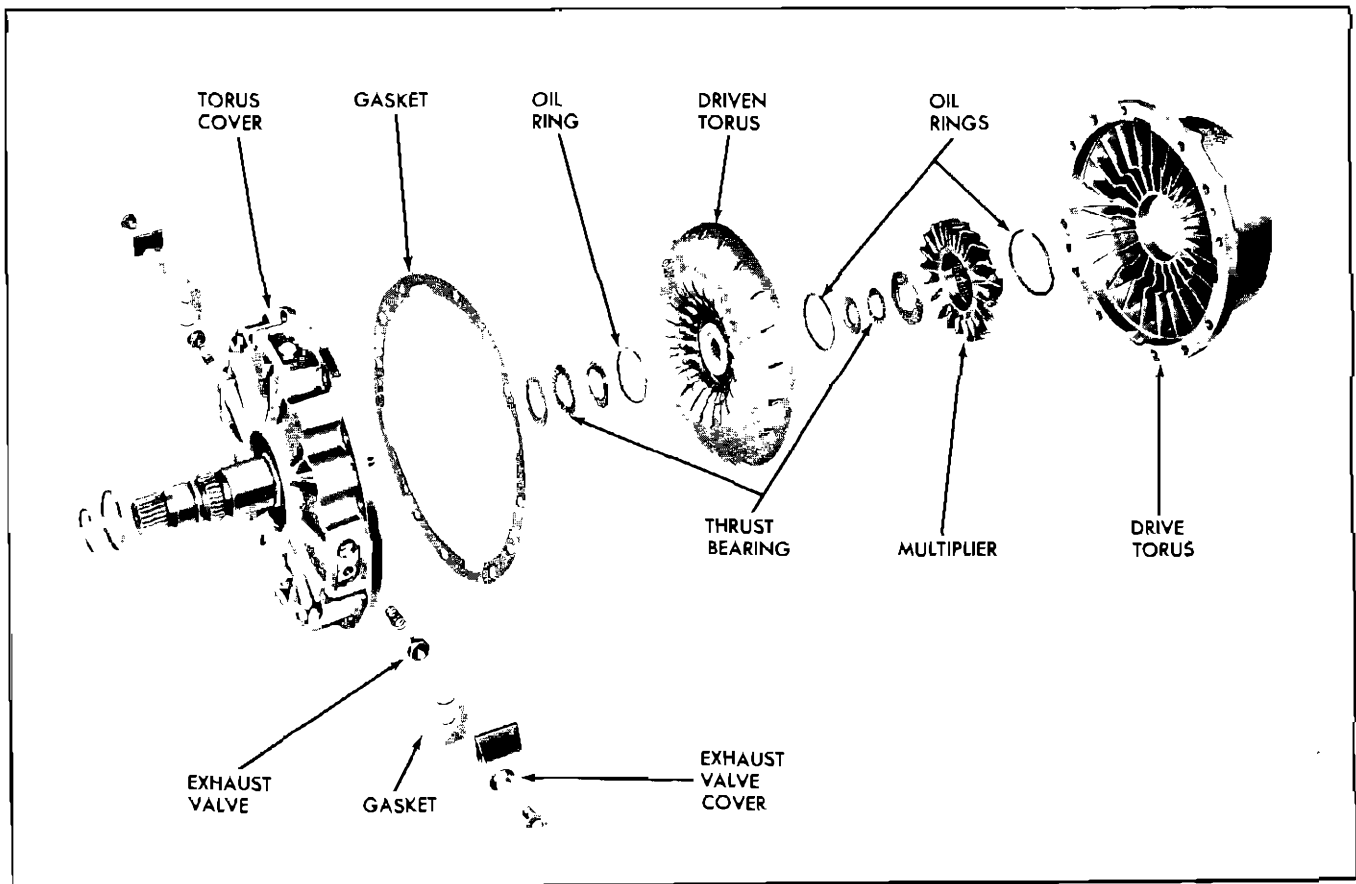

Fig. 119 Torus and Multiplier Assembly—Exploded
2. Install hook type oil ring on torque multiplier hub, if removed (Fig. 119).